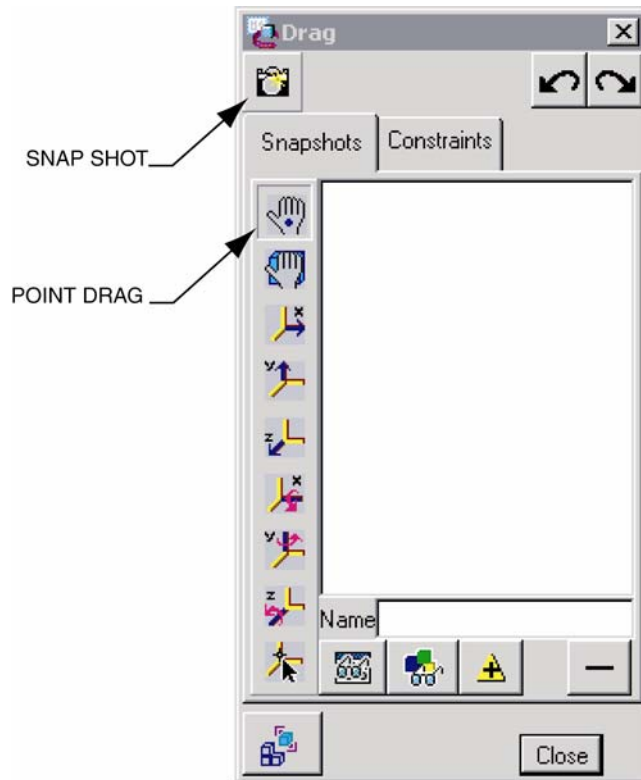
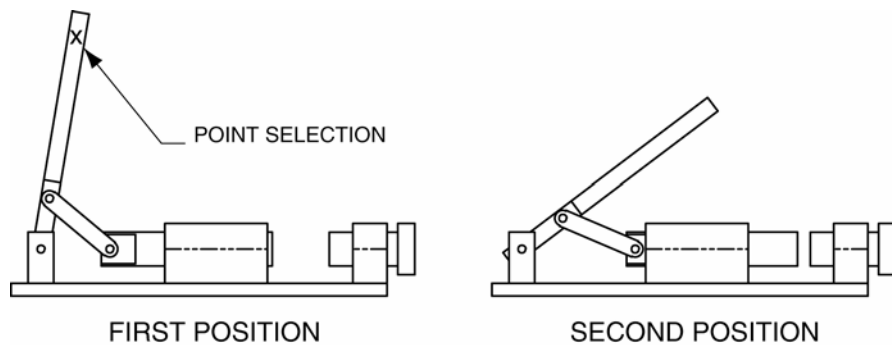

Figure 12-102: Drag Entity Selection
Figure 12-103: Drag Positions
- Step 2:** On the **Drag** dialog box, select the **Point Drag** icon (Figure 12-102) then select the end of the handle part (see Figure 12-103).
- Step 3:** Drag the handle to the **First Position** shown in Figure 12-103.
Figure 12-103 represents a side view of the assembly. You can utilize any orientation to include a user-defined viewpoint.
Step 4: On the Drag dialog box, select the SNAPSHOT icon (Figure 12-102).
Step 5: Drag the handle to the second position shown in Figure 12-103 then create a second snapshot.